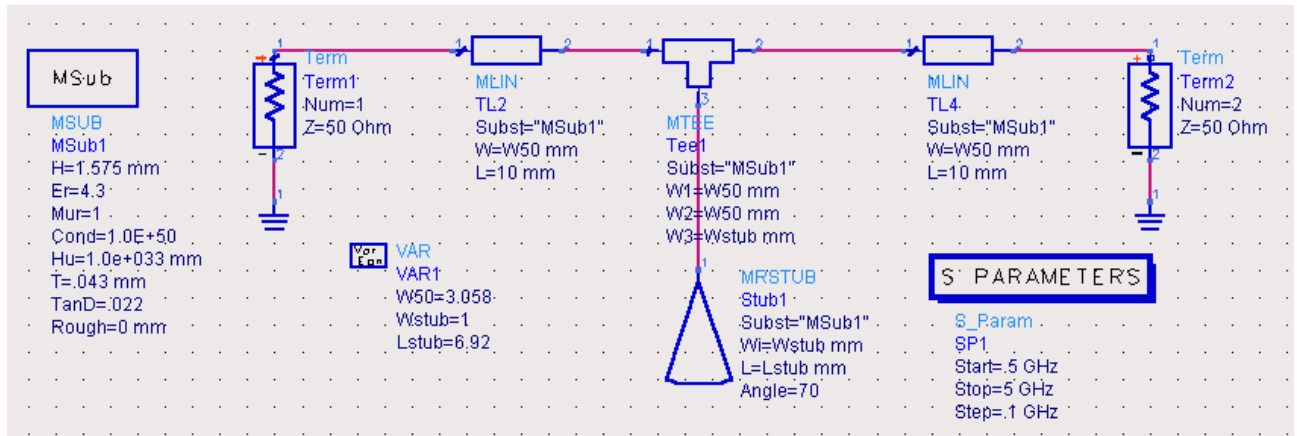

Figure 1. Initial circuit schematic.
- 1) Set up the circuit schematic given in Figure 1. This schematic is identical to that described at the beginning of Procedure #11, **except that the Lstub variable is equal to 6.92**. (Note: this is the “tuned” value of the stub length that created a maximum S_{11} and minimum S_{21} at 4 GHz.)